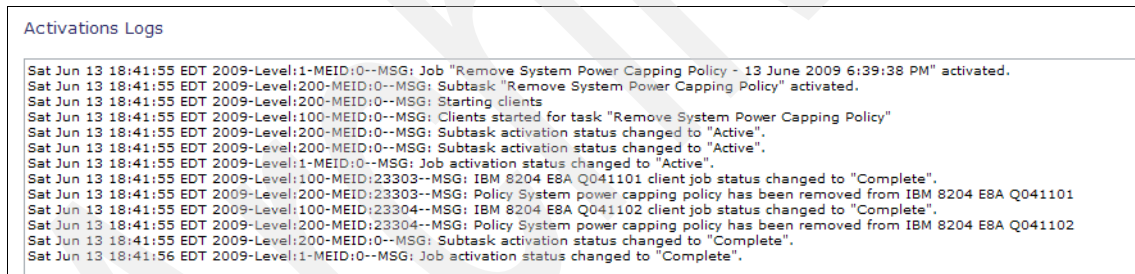

Figure 7-74 Removing a policy - 6
- c. Second, click the Logs tab to view the message log for the remove (Figure 7-74). You can use this to help resolve any errors experienced during the remove.